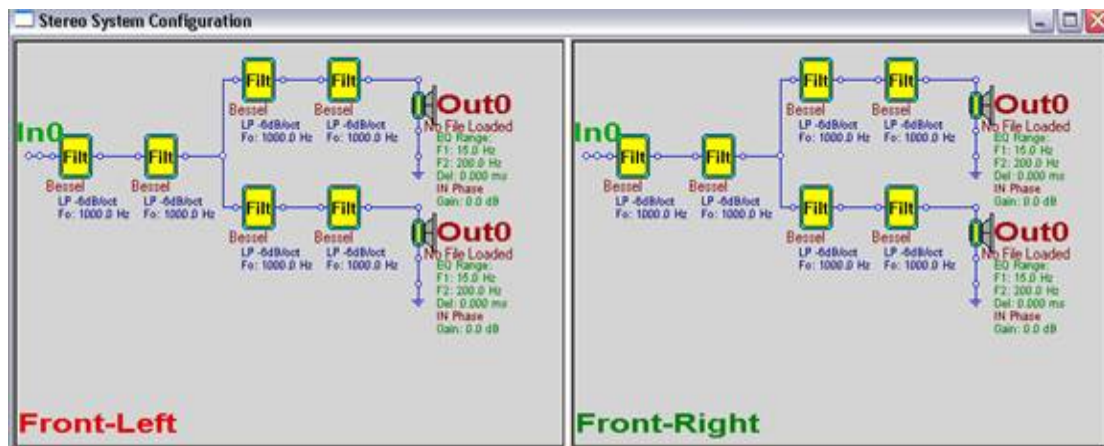
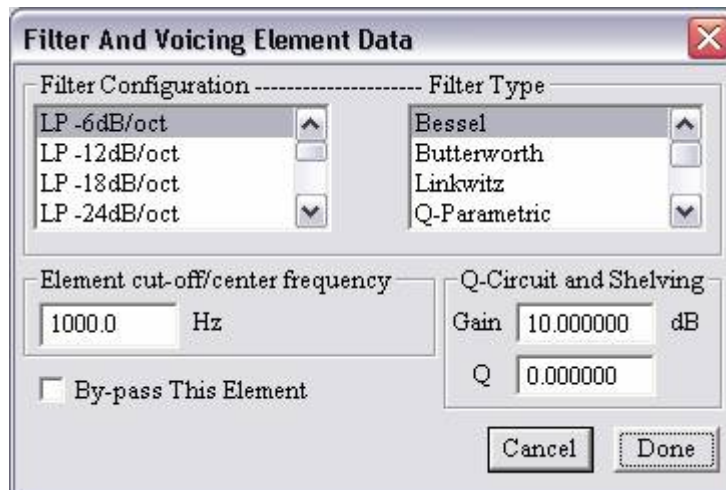

Figure 70. Front-Left channel label is displayed in **RED** indicating this channel is ready to be edited.
Figure 72. Filter and Voicing Element Dialog.
To activate a specific frame of the CAD screen the user must Right Click on any open area of that frame. The channel label will turn **RED** indicating that frame is active for editing. See Figure 70.
- **Filter Element:** The filter element is a very general element. It can serve as either a high pass or low pass filter of various order and type, a high pass or low pass shelving filter or a peak/notch filter. Referring to Figure 70, the filter blocks in the leg of the circuit connected directly to the input node should be used for system equalization or voicing. The filters connected to the drivers after the circuit branches should be used to specify the high pass and low pass SPL targets for the individual drivers. Right clicking on the yellow section opens the filter dialog as shown in Figure 72. For high pass and low pass filters the slope (6, 12, 18, 24, or 48dB/octave), cut off frequency and type, Bessel, Butterworth or Linkwitz must be specified. For voicing filters the type (Q-Parametric, Shelving +/- 6 or 12dB) and corner or center frequency must be specified, in addition to the gain and Q for the Q-parametric Peak/notch. The filter element can also be by passed by checking the by-pass box. When by-passed the filter response is omitted form the target response. In this manner filter blocks can be omitted or included in the target response without the need to delete or add elements.